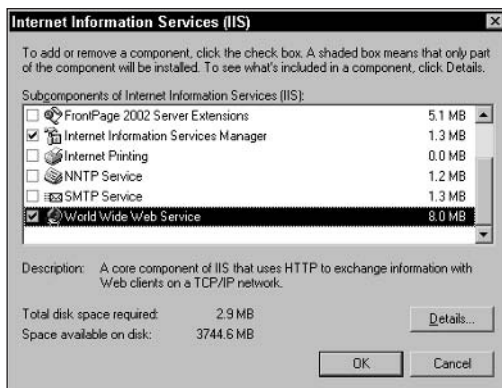

Figure 18-5: After selecting the Internet Information Services (IIS) check box, highlight World Wide Web Service so that you can click Details.
6. Select the World Wide Web Service check box, and click Details (see Figure 18-5).